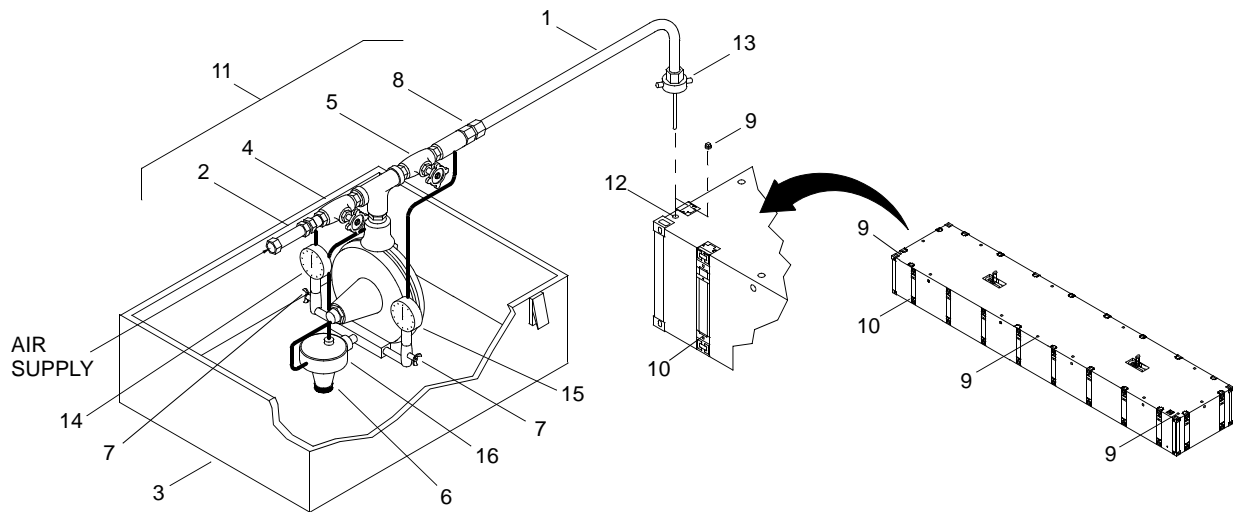

Figure 1. Module Pressure Test Setup (Center Module Shown)
1. Remove sensing line (figure 1, item 1) and charging line extension hose (figure 1, item 2) from storage box (figure 1, item 3).
2. Verify inlet and outlet valves (figure 1, items 4, 5), pressure knob (figure 1, item 6) and both gage petcocks (figure 1, item 7) are closed.
3. Connect sensing line (figure 1, item 1) to outlet coupling fitting (figure 1, item 8).
4. Remove pipe plug (figure 1, item 9) from one of three locations at side of module (figure 1, item 10).
5. Position test set (figure 1, item 11) on module (figure 1, item 10).
6. Install test set sensing line (figure 1, item 1) into module (figure 1, item 10) through chosen pipe plug opening (figure 1, item 12).
7. Using pipe to hose adaptors (figure 1, item 13), as required, connect sensing line (figure 1, item 1) to pipe plug opening (figure 1, item 12).
8. Connect 100 PSI air supply to charging line extension hose (figure 1, item 2) connector.
9. Rotate pressure knob (figure 1, item 6) counterclockwise eight turns.
10. Open both gauge petcocks (figure 1, item 7).
12. Open inlet valve (figure 1, item 4).
13. Observe input pressure gauge (figure 1, item 14) and rotate pressure knob (figure 1, item 6) clockwise until gauge reads 2 PSI.
14. When input pressure gauge (figure 1, item 14) is stable at 2 PSI, open outlet valve (figure 1, item 5).
15. When input pressure gauge (figure 1, item 14) is stable at 2 PSI, open outlet valve (figure 1, item 5).
16. When output pressure gauge (figure 1, item 15) reads 2 PSI, close outlet valve (figure 1, item 5).
17. Observe any pressure drop on output pressure gauge (figure 1, item 15).